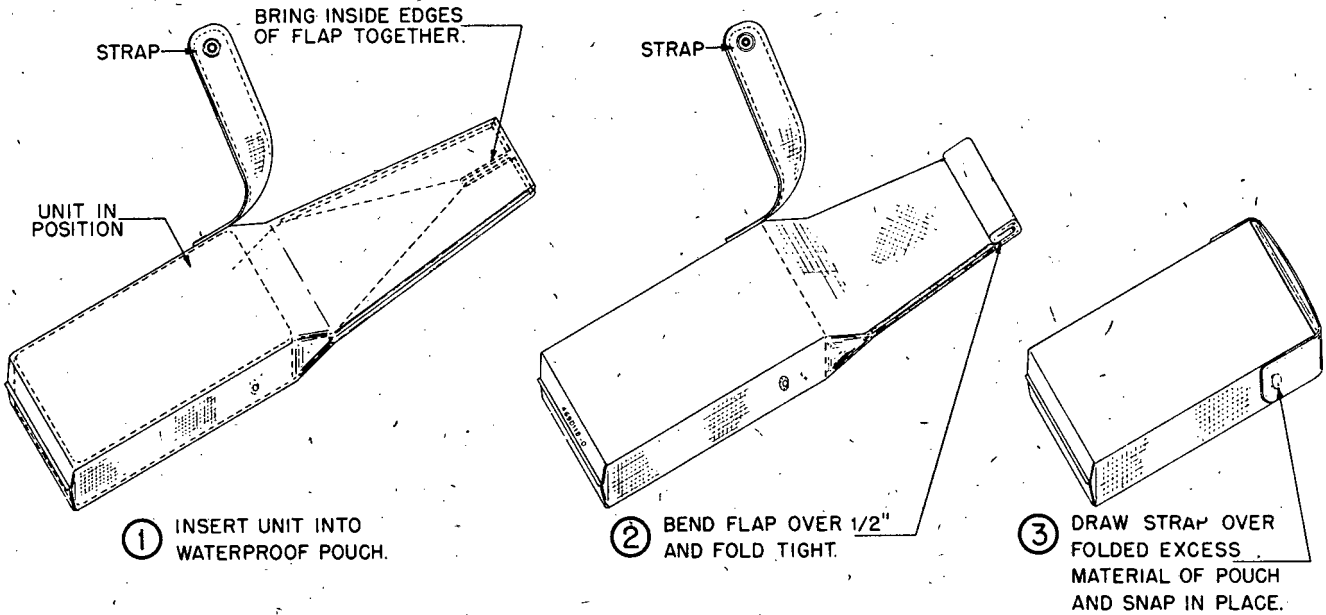

Figure 24. Packaging detail.
vided, as shown in Figure 24. The pouches are waterproof if folded in the prescribed manner.
b. There are two sizes of pouches -two large ones for Transmitter RT-6-XX & Receiver RR-6-XX and two small ones for the Power Supply RP-6-XX and Filter-Accessory Unit RA-6-XX. All are used as shown in Figure 24.